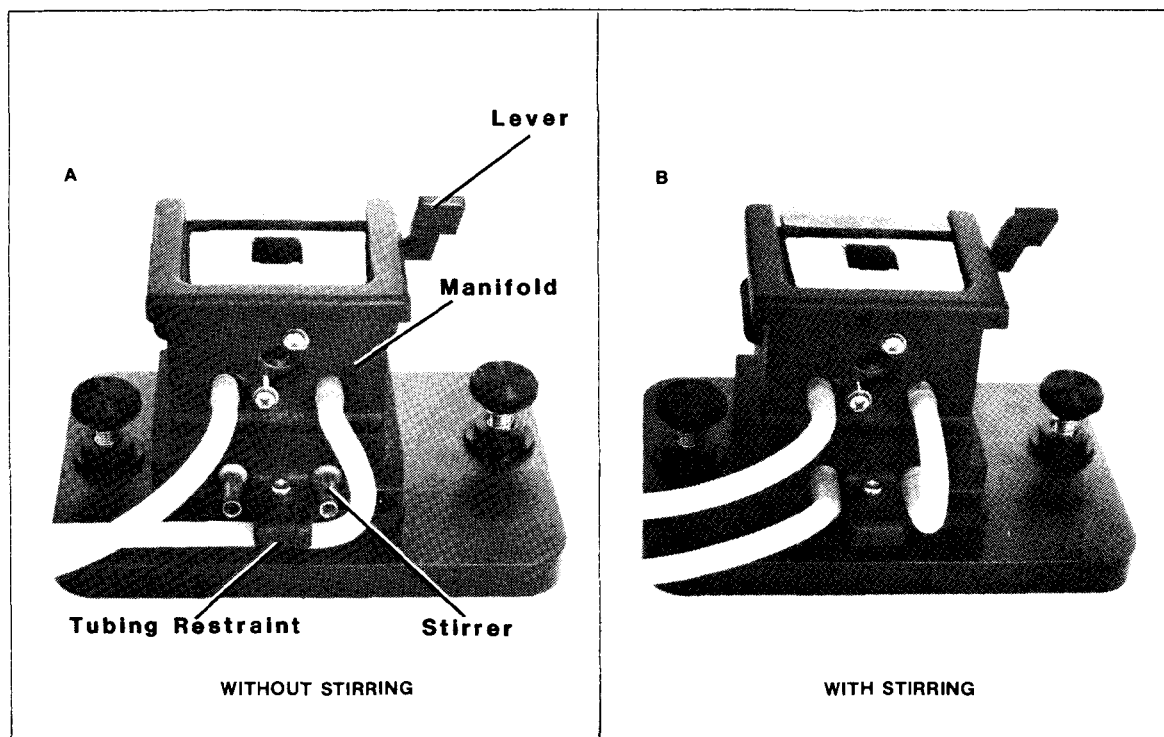

Figure 7-12. Connecting Water Tubing to the Manifold and Stirrer
2. Connect the water inlet and outlet tubing to the manifold and stirrer (see Figure 7-12). If a faster stirring speed is desired than can be obtained by connecting the manifold and stirrer in series, a separate pressurized water or air source can be used to drive the stirrer.